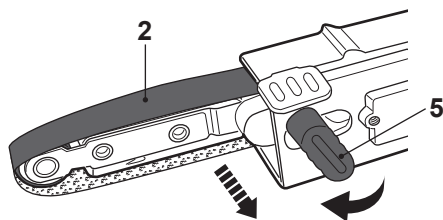

Fig. 4
- > Whilst the sanding belt is running, adjust the tracking adjustment knob (5) to align the sanding belt to the centre of the rollers (1, 6).
- > Turn the tracking adjustment knob (5) clockwise to adjust the sanding belt (2) to the right (Fig. 4).